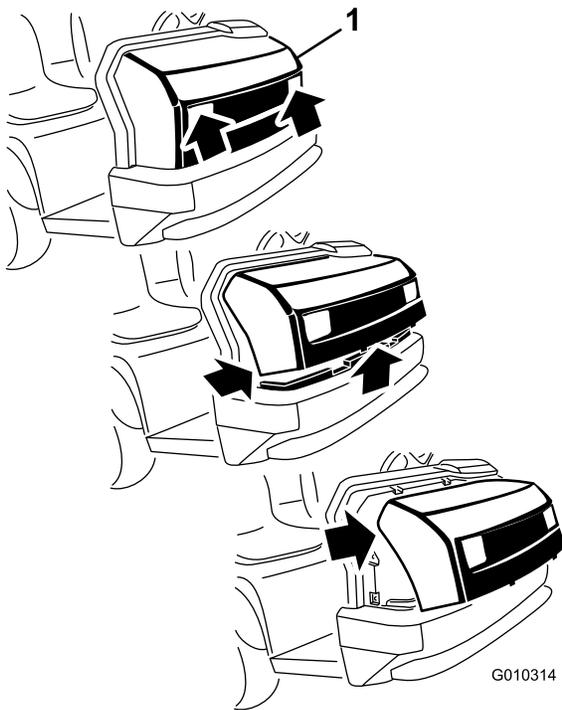

Figure 33
1. While grasping the hood in the headlight openings, lift up on the hood to release the lower mounting tabs from the frame slots (Figure 33).
2. Pivot the bottom of the hood upward until the top mounting tabs can be pulled from the frame slots (Figure 33).
3. Pivot the top of hood forward and unplug the wire connectors from the head lights (Figure 33).